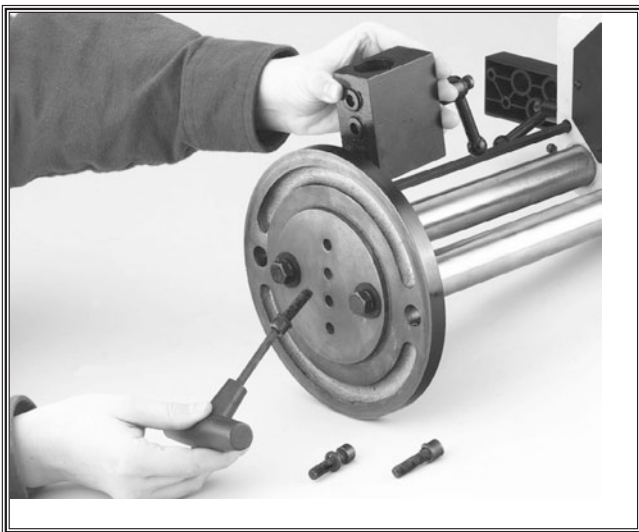

Figure 28. Repositioning the support block.
4. Remove the 3 cap screws holding the support block to the pivot base as in Figure 28.